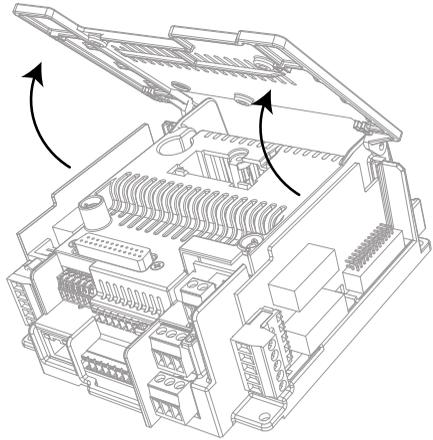

Fig. 34 Open the cover of control box
1. Remove the three screws on the control box as shown in fig. 34.